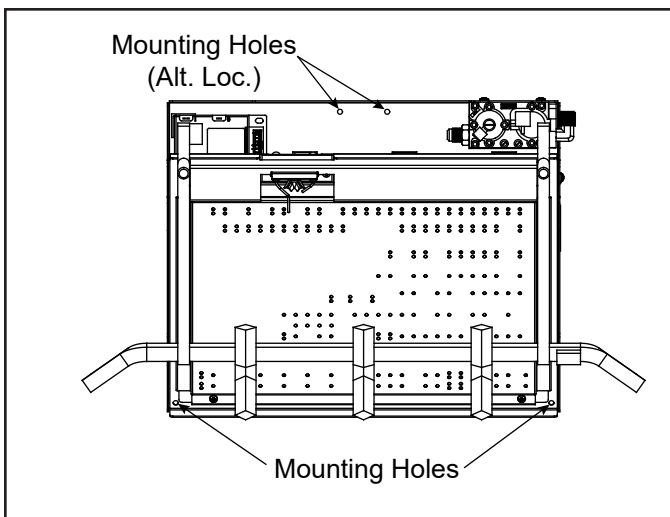

Figure 8.1 Mounting Holes
4. Once the appliance is positioned correctly, side to side and front to back, mark the mounting hole positions on the fireplace floor. See Figure 8.1 for mounting hole locations.
5. Drill (2) 5/32" diameter holes approximately 1-1/2" deep.